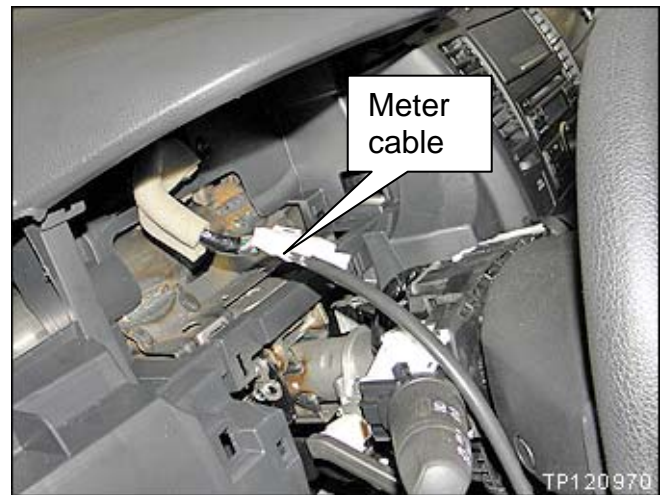

Figure 15
8. Remove the bolt shown in Figure 15.